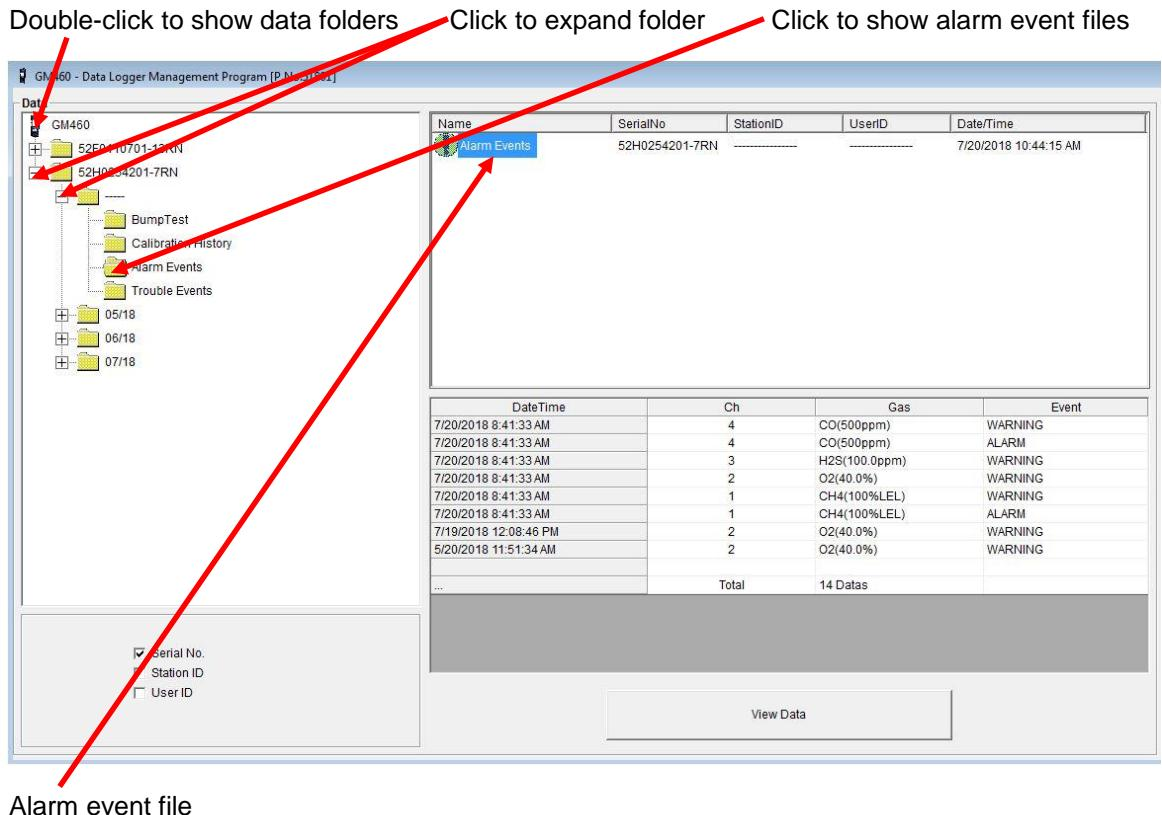

Figure 26: Data Window – Selecting Event Data Files
1. With the program already launched, click the **Data** control button along the right side of the program window. The Data Window will appear (see Figure 26).
- Click the **Alarm Events** or **Trouble Events** folder. One or more alarm or trouble event files will appear in the top right frame. An Alarm Events Folder has been opened in the example in Figure 26. If multiple user IDs or Station IDs are used for an instrument, then more than one event file will appear.
frame in Figure 26. To return to the one-frame format, click **Summary** again.